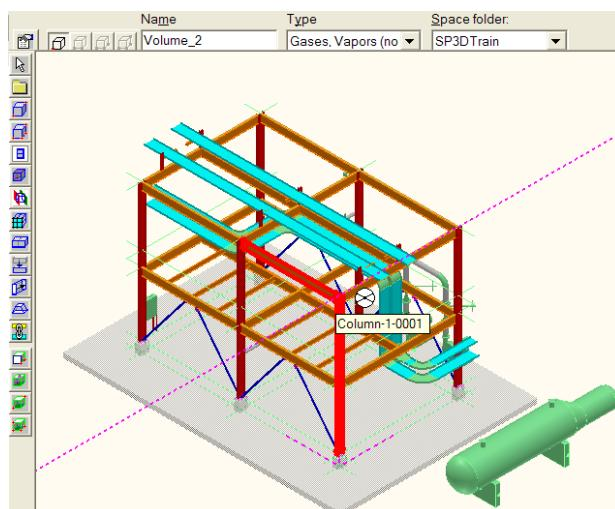

Figure 13: Enter First Point - Origin of the Volume
5. Enter four points as illustrated in Figures 13 to 16.